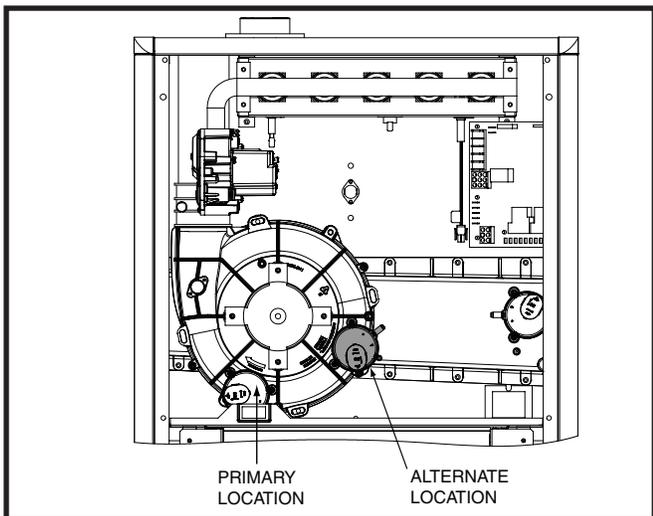

Figure 16. Alternate Pressure Switch Location
2. Label and disconnect the tubing and wires from the pressure switch (Figure 16 \(page 17\)).